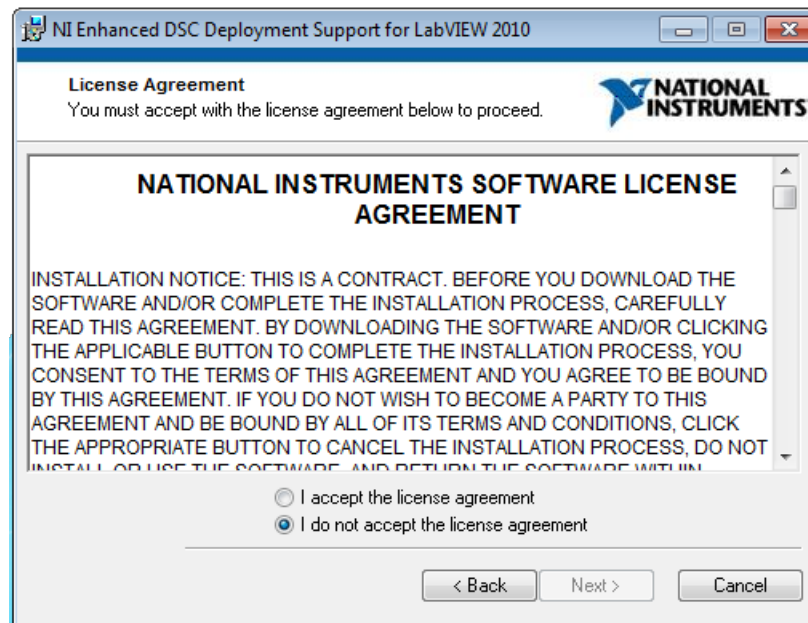

Figure 30. LabVIEW RTE License Agreement
4. The License Agreement appears as shown in Figure 30. Read through the agreement carefully and enable the “I Accept the License Agreement” radio button, then press the *Next >* button.